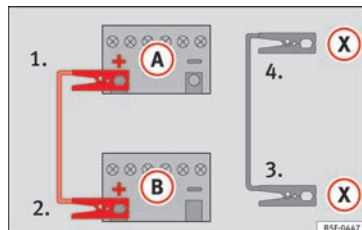

Fig. 71 Diagram of connections for vehicles with Start-Stop system.
– *For vehicles with Start-Stop system:* connect one end of the *black* jump lead (X) to a suitable ground terminal, to a solid piece of metal in the engine block, or to the engine block itself »» Fig. 71.
- Connect the other end of the *black* jump lead (X) to a solid metal component bolted to the engine block or to the engine block itself of the vehicle with the flat battery. Do not connect it to a point near the battery (A).